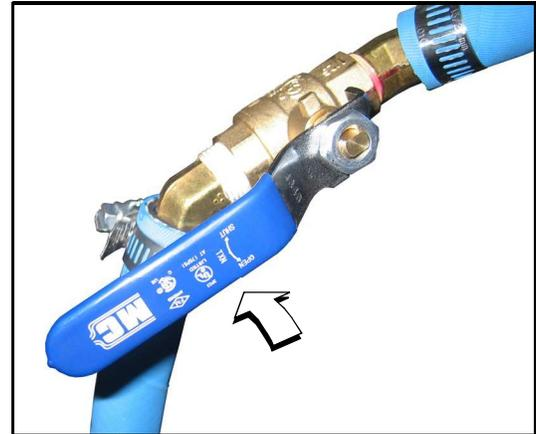
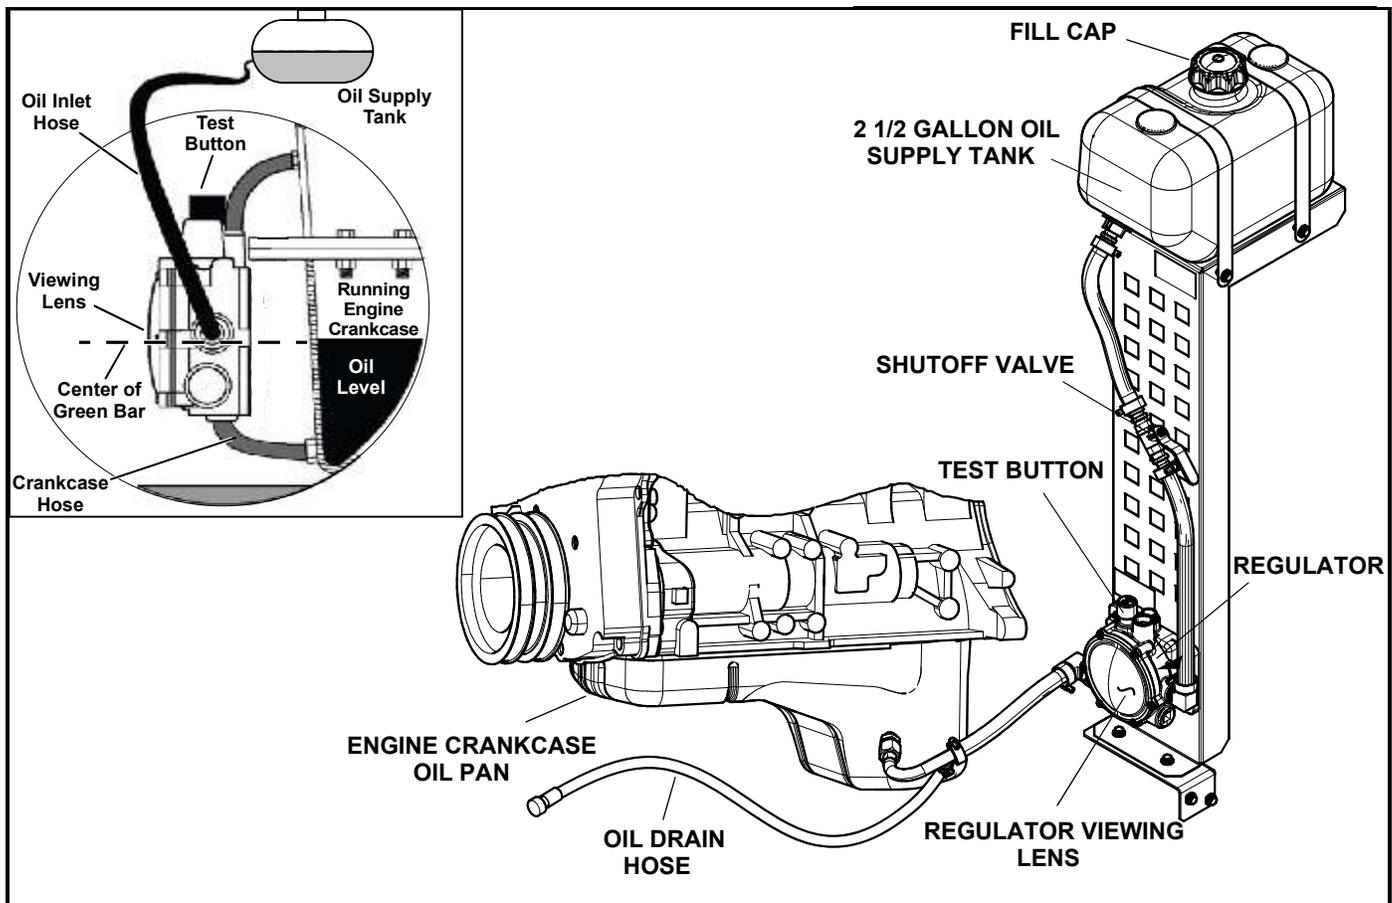

Figure 5-19. Shutoff Valve (Shown in Open Position)
Figure 5-20. Lube Oil Maintainer Assembly and Function Diagram
NOTE: When changing engine oil, always close the shutoff valve to avoid draining the clean oil in the oil supply tank with the crankcase oil. See Figure 5-19.
2. Remove fill cap at top of oil supply tank (Figure 5-20.).
See Figure 5-19 and Figure 5-20. When draining engine crankcase oil, always close shutoff valve to avoid draining clean oil from supply tank.